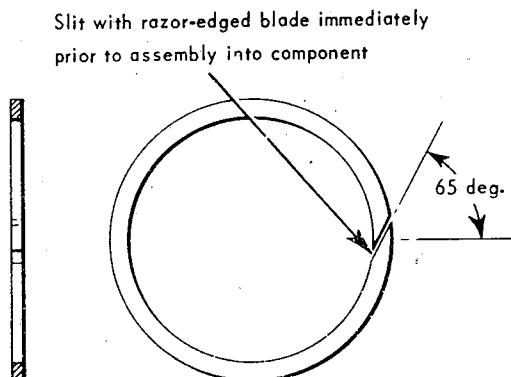

Fig. 2. Piston head sealing ring
(1) Fit a new backing seal and two new sealing rings to each of the piston head grooves. Slit each ring as shown in figure 2 immediately prior to fitting. When fitting, space the first pair of rings with the slits 180 deg. apart and similarly space the second pair with the slits at 90 deg. to those of the first pair.